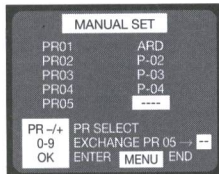

Fig. 5
1. You may if you wish correct or create a station name, when the screen in Fig. 5 is displayed.